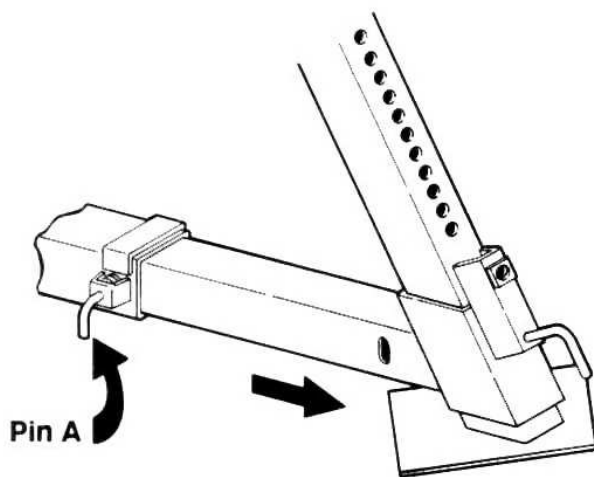

Figure 1-1
1. Disengage pin A and pull the outrigger assembly out until pin A re-engages at the furthest outward outrigger position. Refer to Figure 1-1.
3. On the rear outriggers, disengage pin A and slide the horizontal outrigger out until it locks. Refer to Figure 1-1. Grasp the vertical outriggers, disengage pin B and lower to the ground.